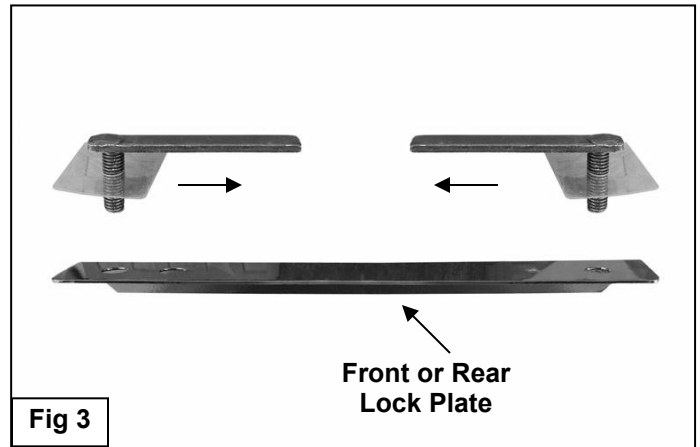
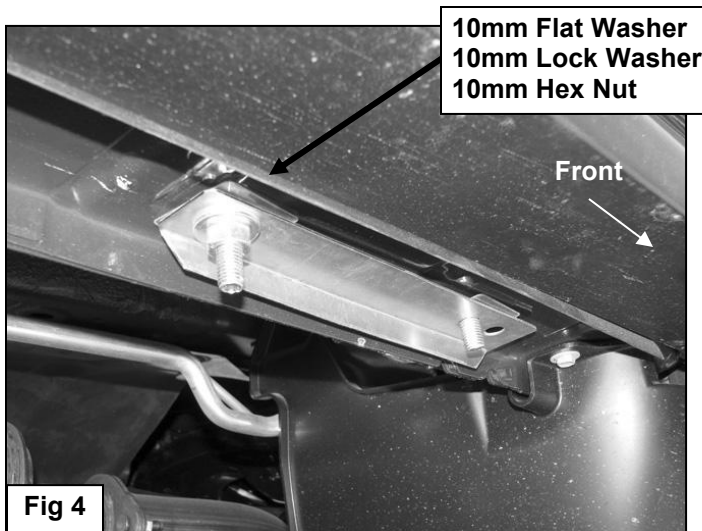

Fig 3
Fig 4
3. Insert (1) Bolt Plate into the first-forward hole with the plate pointed toward the rear of the vehicle, **(Figure 2B)**. Thread the Plastic Retainer down tight against the body panel. Repeat to install the next Bolt Plate into the second hole with the Plate pointed toward the front of the vehicle, **(Figures 2B & 3)**. **IMPORTANT:** The Plates on the (2) Bolt Plates must be pointed toward each other, **(Figure 3)**. Repeat this **Step** for all (6) Lock Plate installations.
4. Select (1) Front or Rear Lock Plate, **(Figure 3)**. Slide the Lock Plate over the (2) Bolt Plates with the bent side toward the pinch weld. Attach the Lock Plate to the rear Bolt Plate only with (1) 10mm Flat Washer, (1) 10mm Lock Washer and (1) 10mm Hex Nut, **(Figure 4)**. Tighten the Hex Nut at this time.